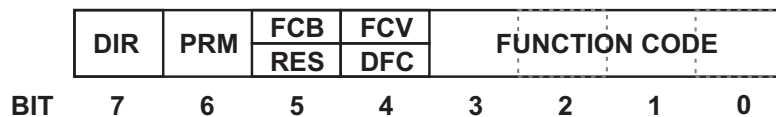

Fig. 2: DNP3 CONTROL
- CONTROL**              The control field contains the direction of the frame, type of frame and flow control information. Figure 2 defines the fields of the control byte. Station A is defined as the designated master station. Station B is not a master station. The primary station is the originator of the message, the source of the message. The secondary station is the destination station.